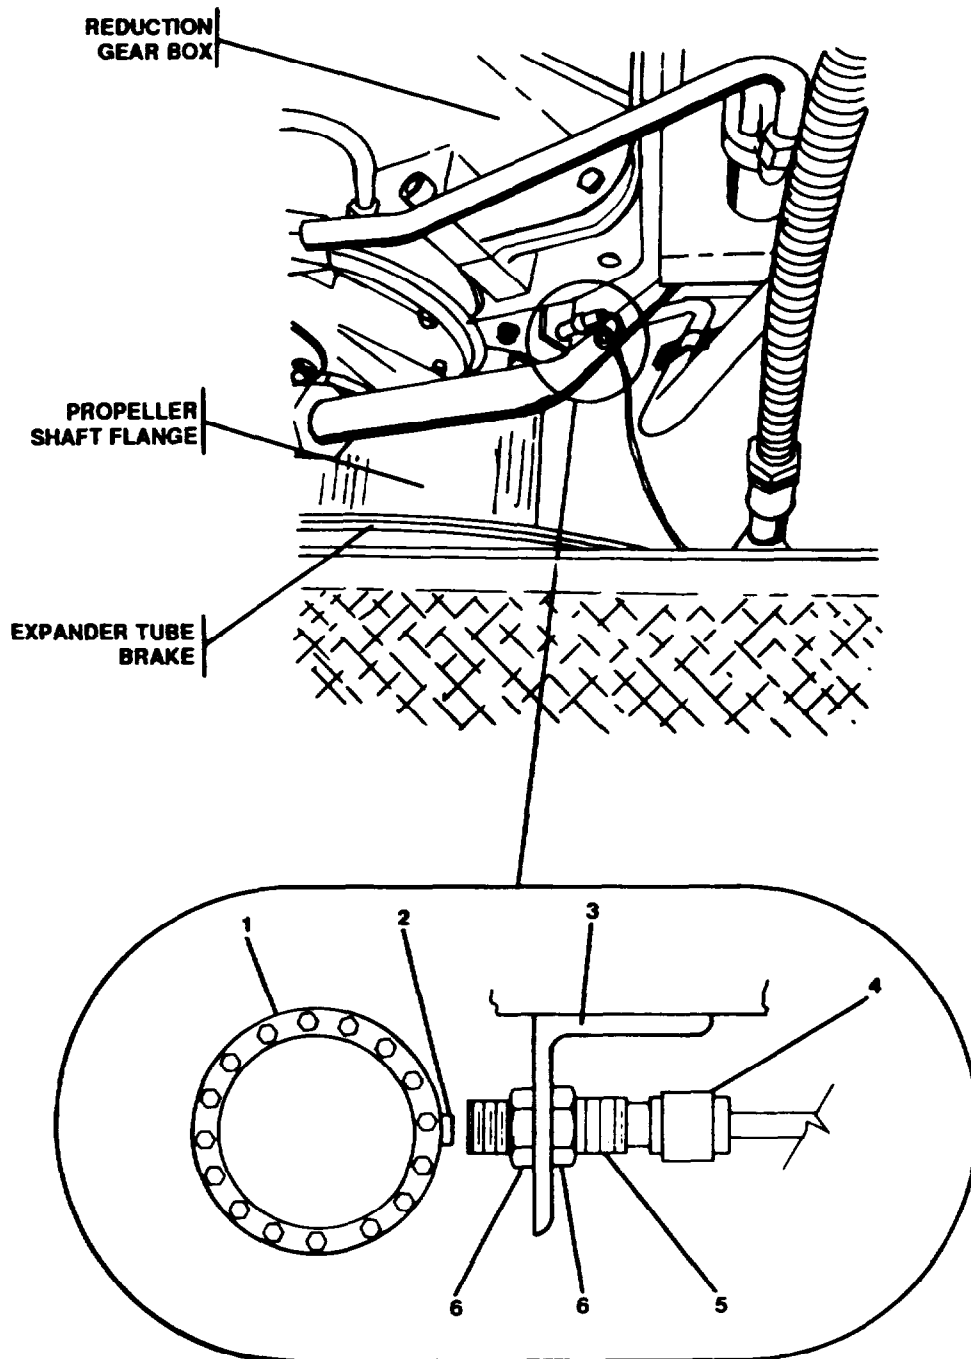

FIGURE 2-231. Motional Pickup Transducer.
- (1) On ENGINE RM DC PNL EP024, use fuse puller and remove appropriate fuse cartridge #13, SFT TACH (STBD) or #14, SFT TACH (port) to remove 24 Vdc power from shaft tachometer circuit.
- (2) Disconnect connector assembly with cable (4, FIGURE 2-231) from motional pickup transducer (5).
- (1) Position replacement motional pickup transducer (5, FIGURE 2-231) with jam nuts (6) in pickup mounting bracket (3).
- (2) Using machine rule, measure and position motional pickup transducer (5) to gap measurement between pickup sensing lug (2) on shaft flange (1) and end of motional pickup transducer (5) recorded in DISASSEMBLY step a.(3). Secure jam nuts (6) ensuring gap distance is not disturbed.
- (3) Connect connector assembly with cable (4) to motional pickup transducer.
- (1) Position appropriate arbitrary scale meter (2, FIGURE 2-231) in wheelhouse console and secure with mounting screws (1 and 3) and mounting hardware on bottom of console.
- (2) From bottom of console, connect wiring to meter (2) terminals (5, 6, 8 and 9). Remove tags.
- (3) Turn on 24 Vdc supply to dimmer rheostats (7).
- (4) On ENGINE RM DC PNL EP024, using fuse puller, install appropriate fuse cartridge #14, SFT TACH (port) or #13, SFT TACH (STBD).
- (5) Request operations to start main engine and engage shaft in AHEAD and ASTERN, and observe arbitrary scale meter (2, FIGURE 2-231) for correct shaft direction indication.